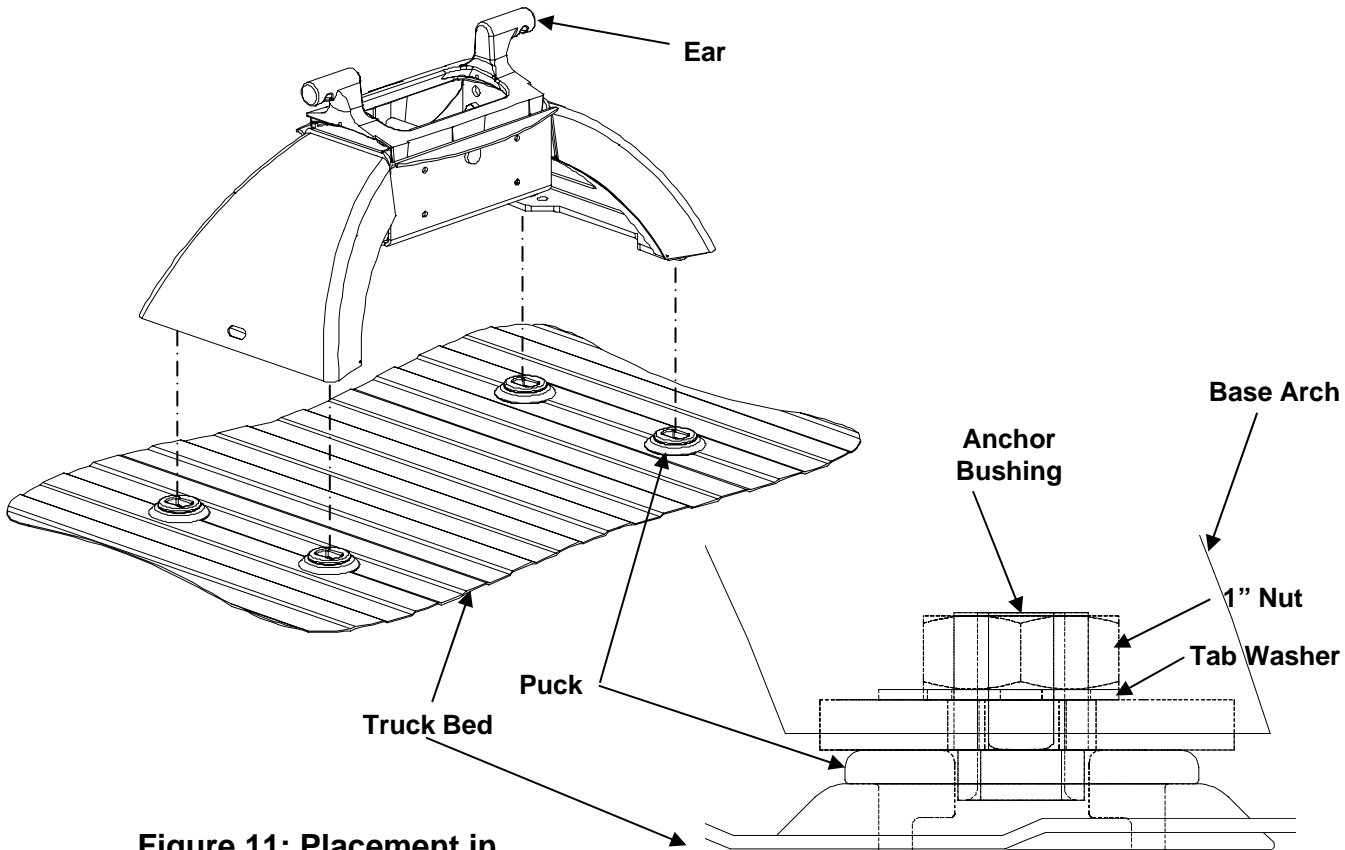

Figure 11: Placement in Mounting Kit / Truck Bed
3. Place assembly into mounting pucks which are installed in truck (see *Signature Series* Mounting Kit Instructions). (Figure 11). Be sure that base arches are contacting all pucks with bushings slid into puck slots.
4. Tighten 5/8 bolts in center section to 170 ft.lbs. using 15/16 socket. Snug tight (no vertical play in anchor bushing assembly) all (4) 1" jam nuts inside base arches using a 1-1/2" box end wrench, then tighten each jam nut another 1/4 turn for proper torque requirement. Note that the unit is not secured down and should be held while tightening hardware.